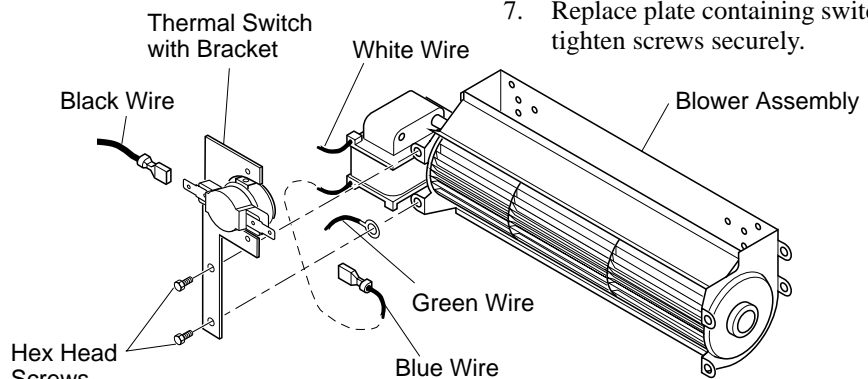

Figure 29 - Attaching Thermal Switch to DA3610T Thermostatically-Controlled Blower Accessory
1. Remove the two hex head screws on the blower assembly as shown in Figure 29.